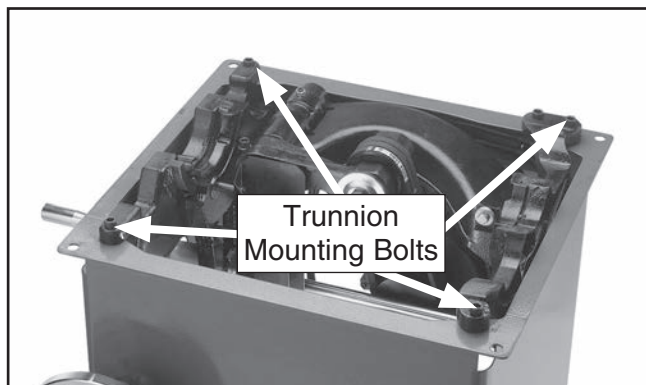

Figure 110. Trunnion mounting bolts.
3. Loosen the five trunnion mounting bolts as shown in **Figure 110**, and nudge the trunnion to either the left or the right depending on where the blade is hitting the saw.